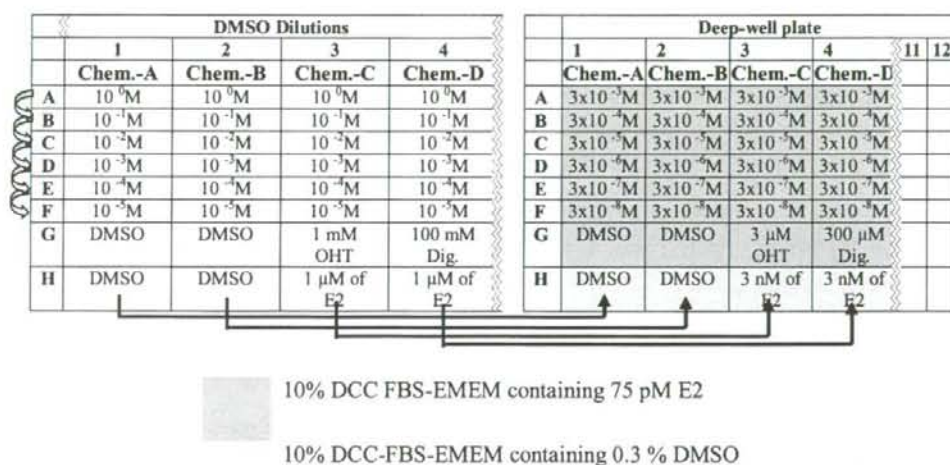

Fig. 6 Plate layouts for dilutions (given concentration of test chemicals are example.)
- (1) Add 20 μL of 10 mM ($=10^{-2}\text{M}$) of OHT stock solution in 180 μL to prepare 1 mM ($=10^{-3}\text{M}$) of OHT.
- (2) Add 10 μL of 1 mM ($=10^{-3}\text{M}$) of OHT in 90 μL of DMSO to prepare 100 μM ($=10^{-4}\text{M}$) of OHT.
6.3.2. Preparation of DMSO Dilution of the test chemicals in a 96-well plate (Fig. 6)
- (1) Add 60 μL of 25 nM ($=2.5 \times 10^{-8}$ M) of E2 in 20 mL of pre-warmed 10% DCC-FBS-EMEM in a sterile reagent tray and mix well to prepare 75 pM of E2 in pre-warmed medium at 37°C*.
- (2) Dispense 500 μL of 75 pM of E2 in medium in "A1" – "G4" of a deep-well plate (Greiner bio-one, , 96-well 0.5 mL, Catalog# 786261 or 96-well 1 mL, Catalog#) (see Fig. 6).
- (2) Dispense 500 μ L of 10% DCC-FBS-EMEM containing 0.3% DMSO in "H1" – "H4" into the deep-well plate (see Fig. 6).
6.3.5. Dilution in a 96-well deep-well plate “with medium” (Fig. 6)